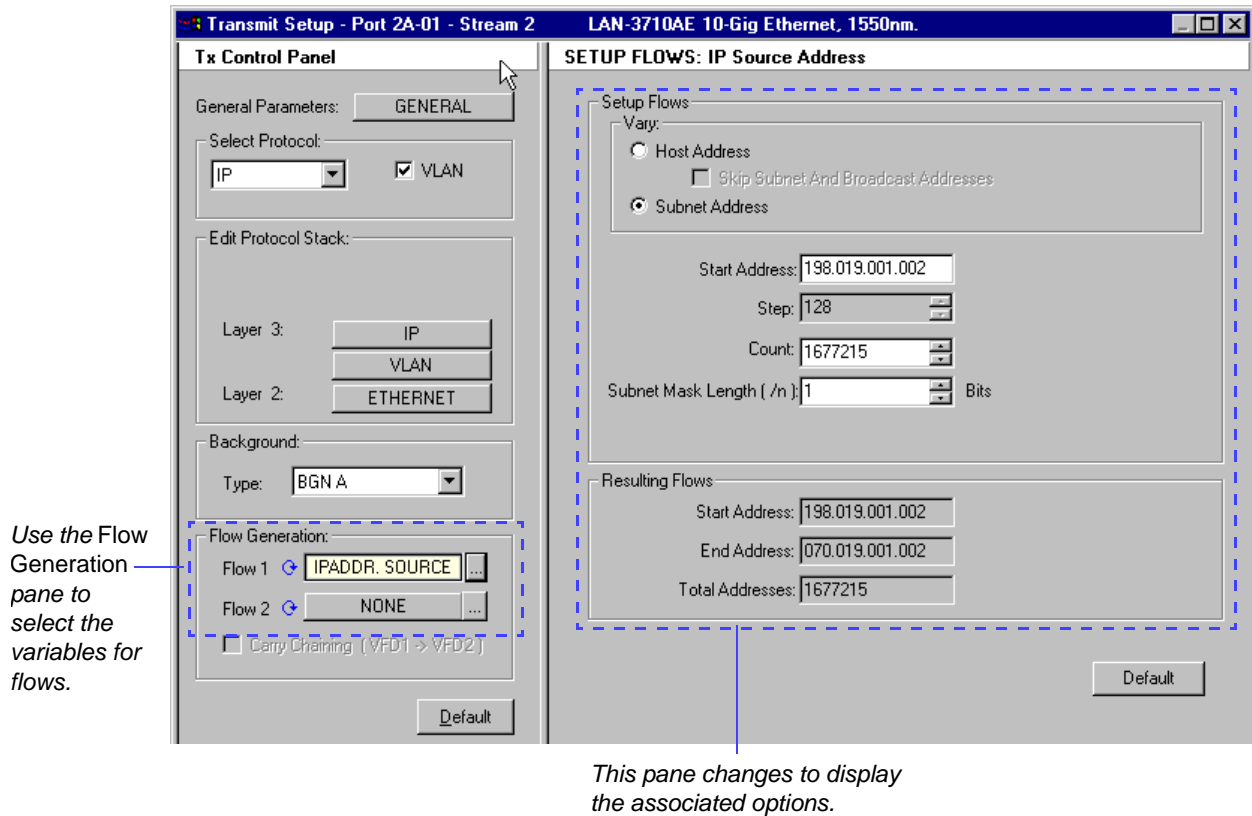

Figure 8-32. Setup for Flow Generation by IP Source Address
- 3 In the *Flow Generation* pane of the *Tx Control Panel* pane (Figure 8-32 on page 370), select the variable to use with flow 1.
The *SETUP FLOWS* pane changes to show the options for the selected variable. For example, in Figure 8-32 on page 370, the *Select Protocol* field value is *IP* and the generation variable for *Flow 1* is *IP ADDR. SOURCE*. The *SETUP FLOWS: IP Source Address* pane shows the options related to this choice.